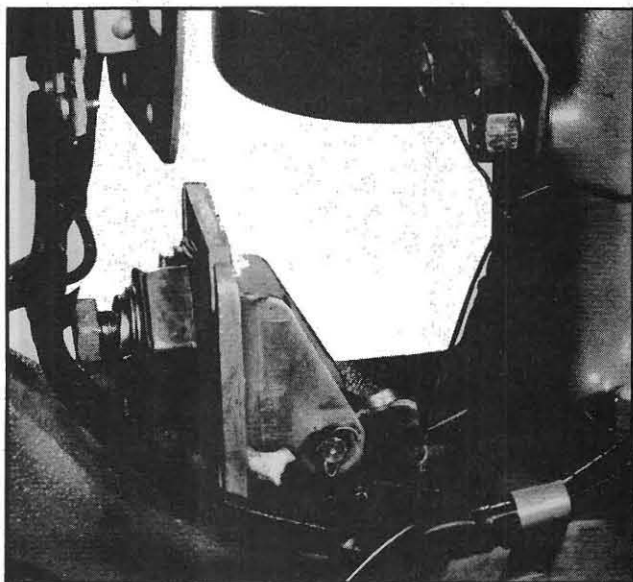

Fig. 190
3. Remove the cotter pin and clevis pin that attaches the rocker to the switch bracket, see Fig. 190.